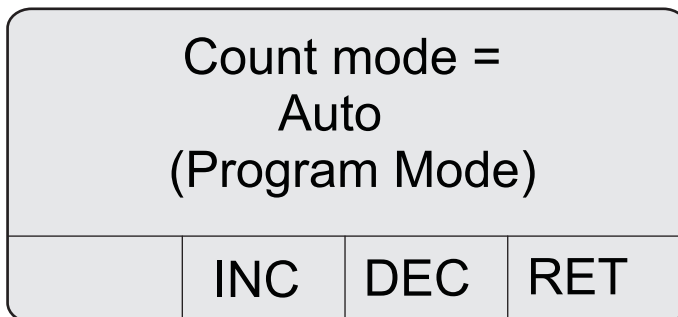

Figure 10 Automatic count mode screen
4. Press **2 (INC)** or **3 (DEC)** to select the Automatic count mode (refer to Figure 10). Auto (A) repeats count cycles until all the count cycles programmed are complete.